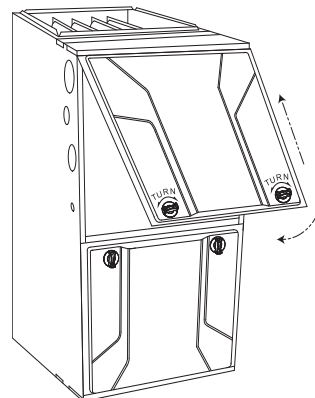

Fig. 13 – Furnace Door Replaced (Upflow Configuration)
7. Replace main furnace door (see Fig. 13).
6. Replace main furnace door (see Fig. 13).